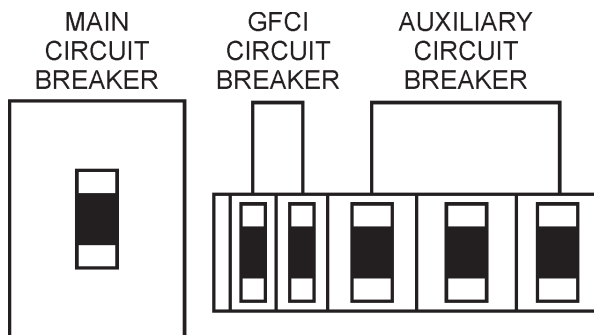

Figure 45. Main, Aux. and GFCI Circuit Breakers (OFF)
1. Place the **main, G.F.C.I.** and **aux.** circuit breakers (Figure 45) in the “OFF” position prior to starting the engine.